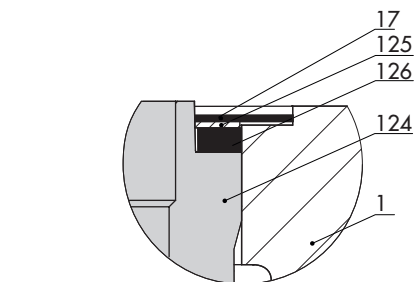

Fig. 9-5: Gasket (17)
7. Insert the new gasket (17) into the groove of the seat retainer (124) and body (1). See Fig. 9-5.
8. Place yoke (60), bonnet (2) with plug and plug stem (5) onto the body (1). Make sure that an opening of the seat retainer (124) faces toward the valve outlet.